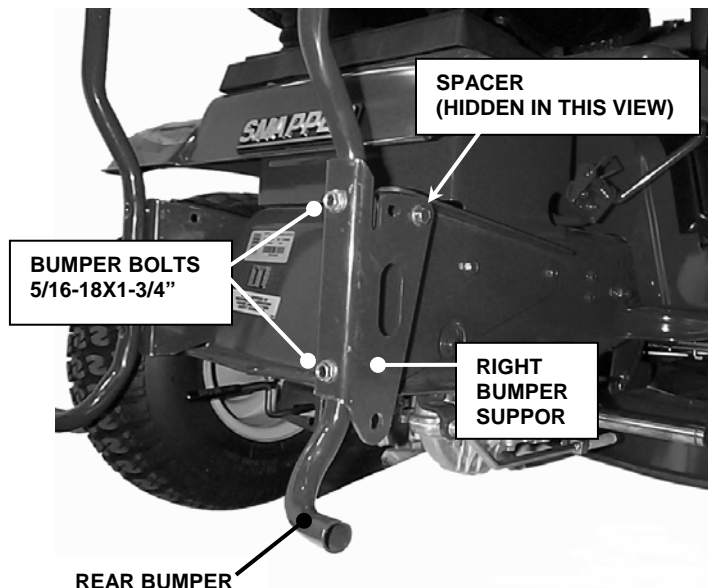

FIGURE 1.2
- A. Install Rear Bumper and right Bumper Support to the right Bumper Bracket. Align holes in Bumper Support, Bumper and Bumper Bracket. Insert (2) 5/16-18 x 1-3/4” Flange Lock bolts and secure with (2) 5/16-18 Flange Lock nuts. **Do Not tighten at this time.** See Figure 1.2.
- B. Insert Spacer (P/N 7-3272) between right Bumper Bracket and Bumper Support. Align holes and insert (1) 5/16-18 x 1-3/4” Flange Lock bolt and secure with (1) 5/16-18 Flange Lock hex nut. **Do Not tighten at this time.** See Figure 1.2.